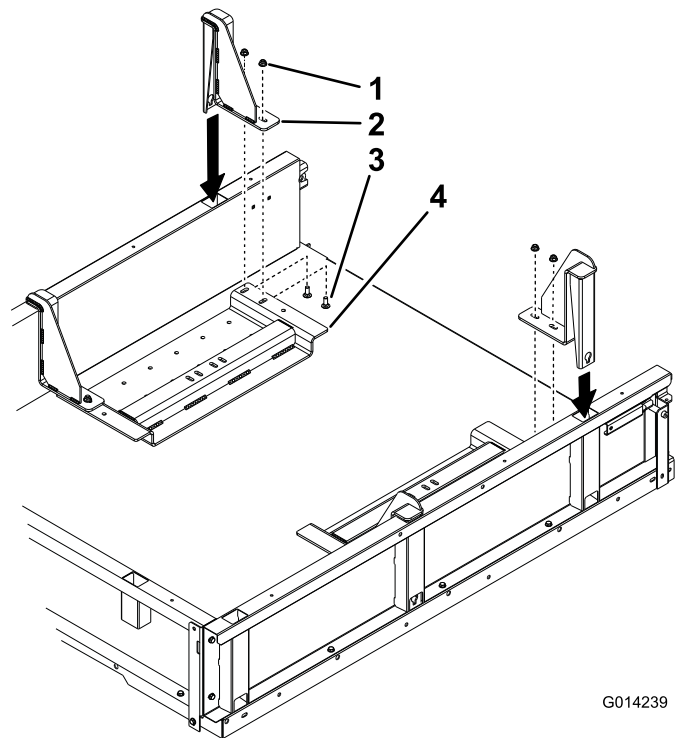

Figure 5
- For heavy-duty vehicles, install the 4 stakes into the slots in the bed and fasten the stakes to the skid plates with 8 carriage bolts (3/8 x 1 inch) and 8 flange nuts (3/8 inch) (Figure 5).